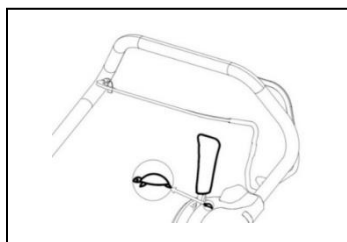

Fig. 17A
- 1) Place the various speed handle in the position indicated  (the position of lowest speed); Fig.17A